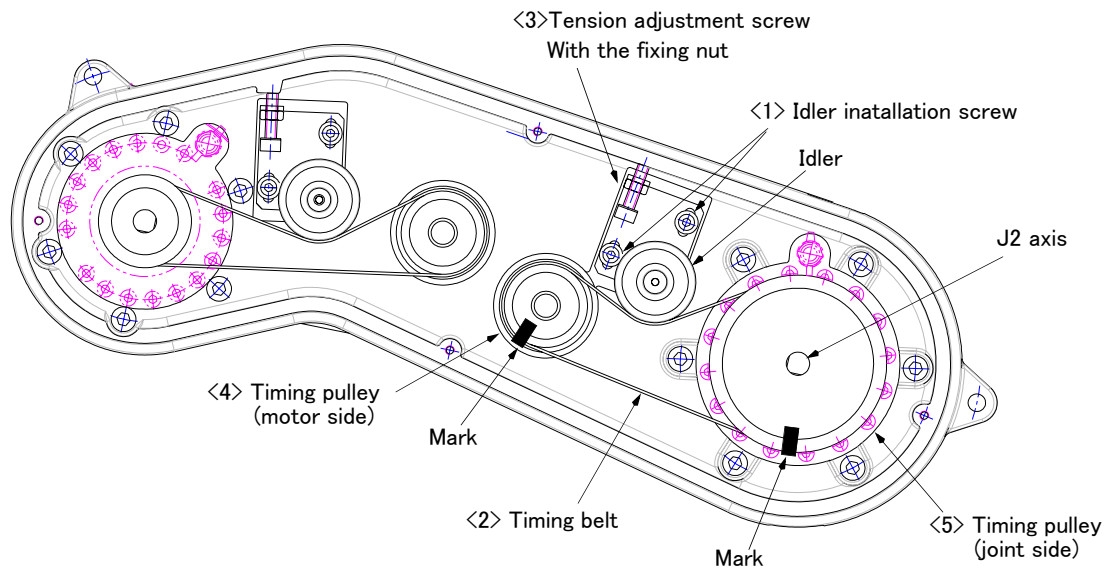

Fig.5-6 : Inspection, maintenance and replacement of J2 axis timing belt
The reference figure at inspection, adjustment, and replacement of the timing belt is shown in Fig. 5-6.
- 3) Make marks on the timing belt <2> and timing pulleys <4> and <5> with a felt-tip pen as shown in Fig. 5-6 so that the engagement of the timing belt <2> and timing pulleys <4> and <5> does not deviate.
- 8) Refer to "■ Adjusting the J2 axis timing belt" and "(8) Timing belt tension" to adjust the tension.
- 8) Refer to "■ Inspecting the J3 axis timing belt" and "(8) Timing belt tension" to adjust the tension.